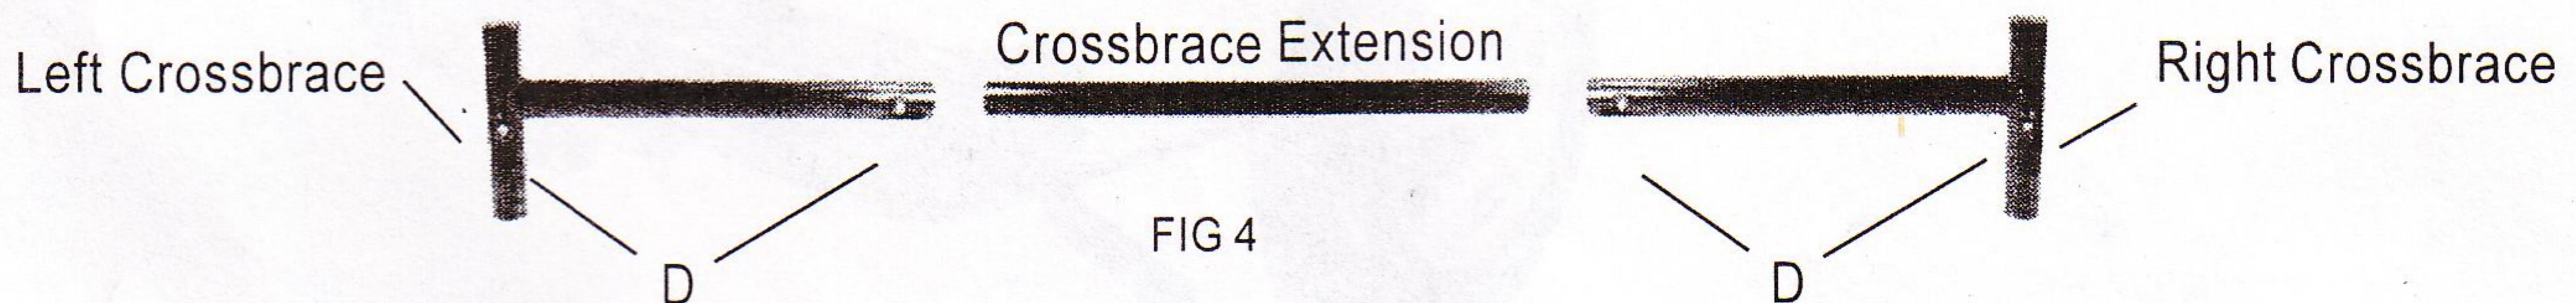

FIG 4
Insert the Crossbrace into the Crossbrace Extension (FIG 4) and set the entire assembly on top of the Upright legs. Center the Crossbrace left to right and secure it with the allen head set screws (D). Secure the Crossbrace to each Upright leg with the included allen head set screws.